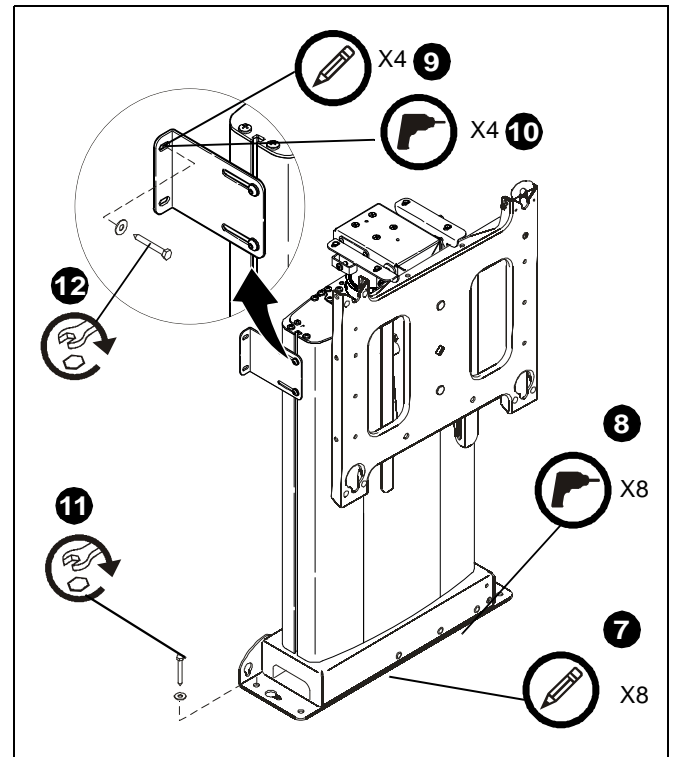

Figure 24
5. Loosen four screws securing side mounting brackets to mount and adjust side mounting brackets until properly positioned against vertical mounting surface. (See figure 24)
6. Tighten four screws to hold position of side mounting brackets. (See figure 24)
7. Mark eight base mounting hole locations. (See figure 24)
11. Secure mount base to mounting surface using eight screws. (See figure 24)
12. Secure mount to vertical mounting surface using four screws. (See figure 24)